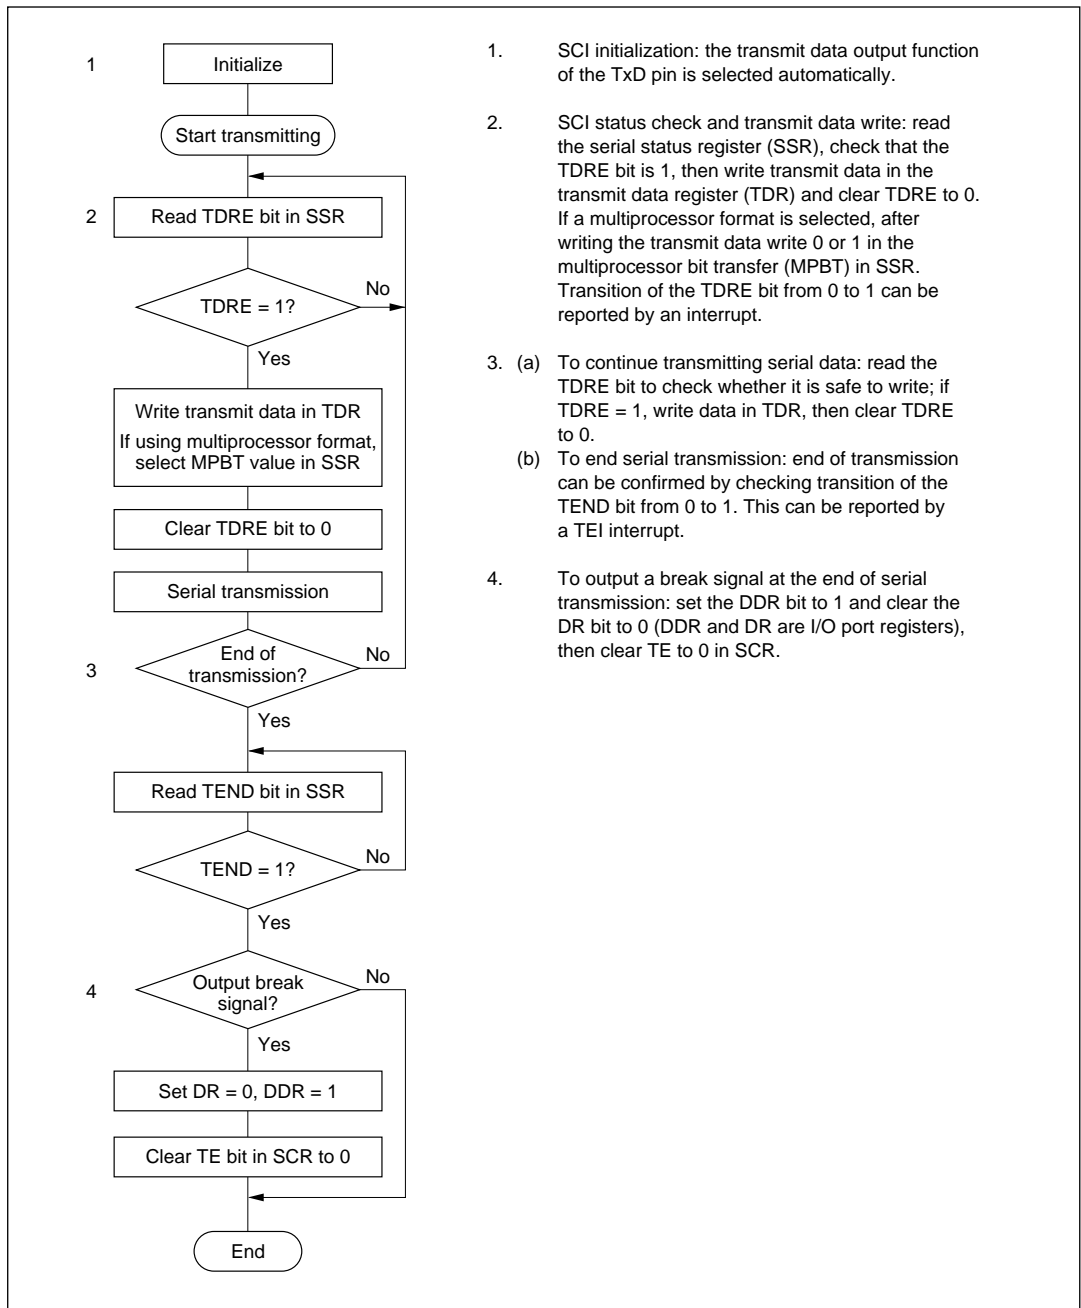

Figure 11-5 Sample Flowchart for Transmitting Serial Data
- **Transmitting Serial Data:** Follow the procedure in figure 11-5 for transmitting serial data.
- **Transmitting Multiprocessor Serial Data:** See figures 11-5 and 11-6.